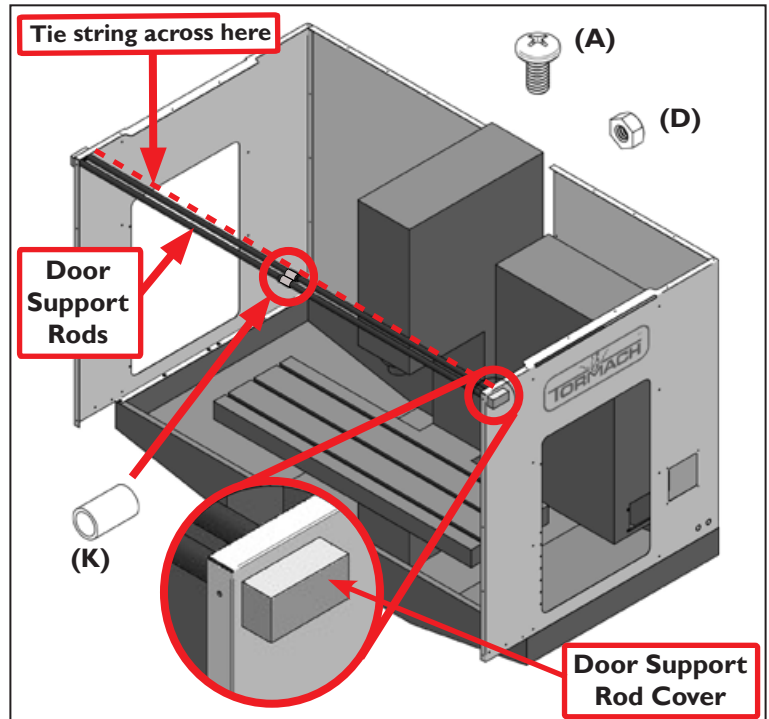

Figure 7
17. Hold the Door Support Rod Cover (E.11) on the outside of the Right Side Panel (E.16) as seen in **Figure 7**.
18. Using one (A) screw, fasten the rod cover in place from the inside of the panel.
19. Connect two Door Support Rods (E.1) together with one threaded Coupling (K) and tighten; repeat process for remaining rods and coupling.
20. Slide two assembled rods into holes in the Left Side Panel (E.17) and then shift them back into the Right Side Panel's rod cover for support (see **Figure 7**).
21. Place the second rod cover over the rods now protruding on the outside of the Left Side Panel (E.17). Using one (A) screw, fasten the cover in place from the inside of the panel.
NOTE: Do not allow side panels to flex outward and allow rods to fall. Temporarily stretching a string taunt between the two side panels alleviates this problem (see **Figure 7**).
28. If string was used across the two side panels to prevent them from flexing outward, remove it at this stage (see **Figure 7**).